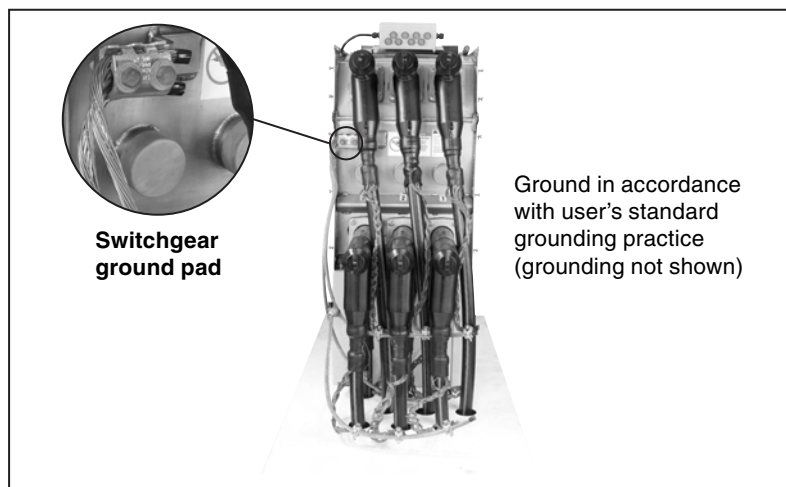

Figure 5. Switchgear ground pad.
2. Connect the ground pad of the switchgear to the system ground facility in accordance with the user's standard grounding practice. See Figure 5.